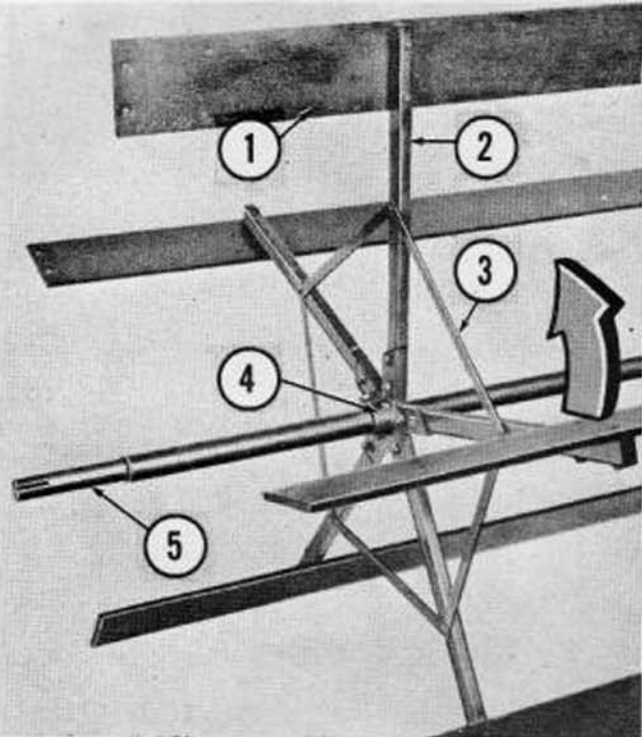

Figure 18
- a. Position the three spider castings (4), Figure 18, (four on
- b. Attach the reel sticks (2), Figure 18, to each spider loosely, using two 5/16" x 1 1/2" carriage bolts, lockwashers and square nuts in each stick.
- c. Attach the reel straps (3), Figure 18, to the reel sticks (2) as shown, using 1/4" x 1 1/4" round head screws, lockwashers and nuts. Install the straps on the outer sides of the sticks, except on the center spider which is a matter of choice. Tighten all bolts and nuts securely.
- d. Attach the reel bats (1), Figure 18, to the forward side of the reel sticks (2) with 1/4" x 2" carriage bolts, flat washers and nuts as shown.